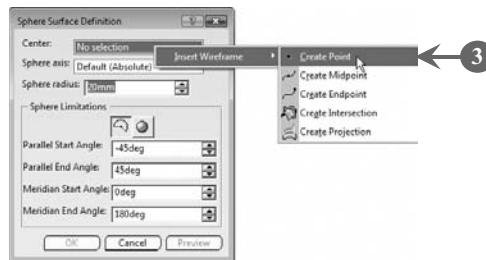

FIGURE 5.41
The **Sphere Surface Definition** dialog box opens (**Figure 5.41**).
3. *Right-click* inside the **Center** box and *select* the **Insert Wireframe**>**Create Point** option from the context menu to create the center for the spherical surface, as shown in Figure 5.41: